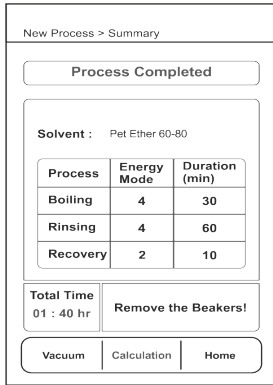

Fig. No. 25.1
- **Process Completion** (Ref. Fig. No. 25.1) : Once the process is complete,